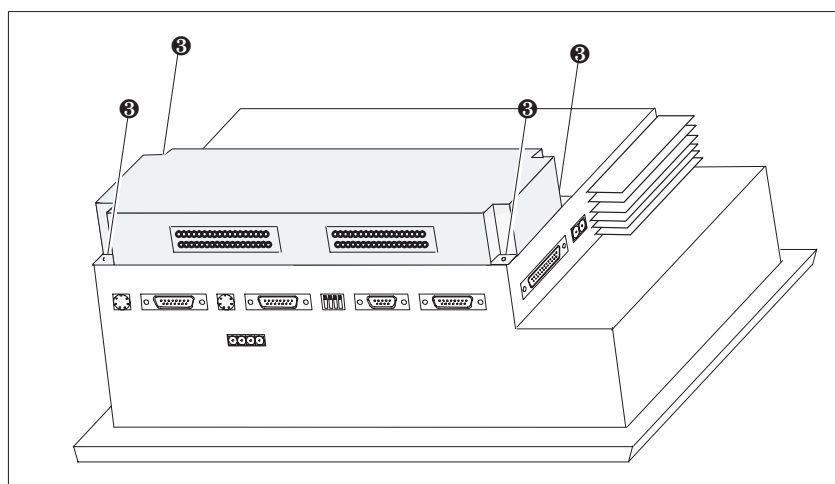

Figure 17-7 Securing the control panel interface (example: TP37)
4. Secure the control panel interface to the Touch Panel with the four screws enclosed ⑧ (illustrated in an example of the TP37 in figure 17-7).